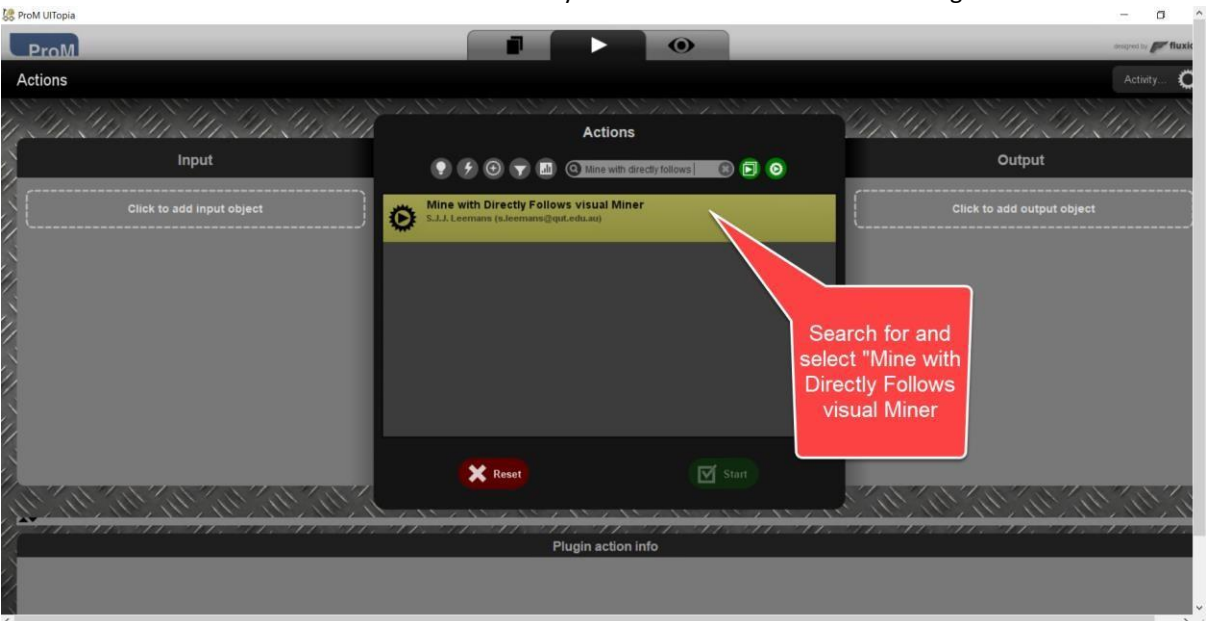

Figure 22 - Image showing the how to select the Mine with Directly Follows visual Miner plugin.
18. Search for and select the “Mine with Directly Follows visual Miner” as seen in Figure 22.